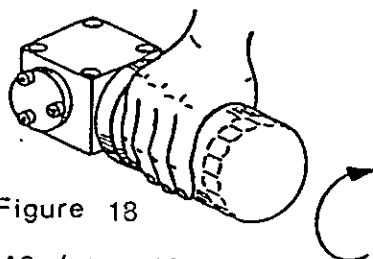

Figure 18
- Screw in the new filter manually until the cartridge gasket fits tightly. (Figure 18) Hand-tighten only!